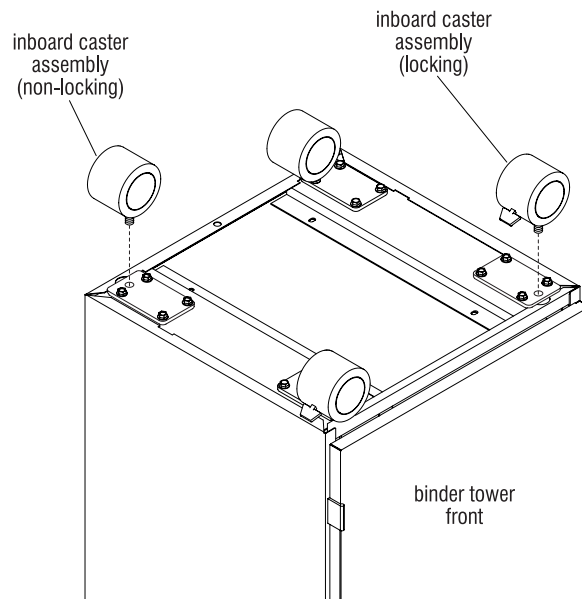

Figure 2
3. Thread the casters into the bottom of the binder tower. Locking casters must be positioned to the front of the cabinet as illustrated. Tighten the jamb-nut of each caster to the bottom of the tower with a wrench (Figure 2).
4. Gently raise the cabinet to it's upright position on the casters (Figure 2).